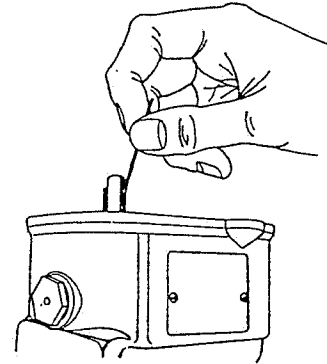

Figure 7.10.4
- G. Apply cam grease sparingly to each lobe of the cam. (See Figure 7.10.4).